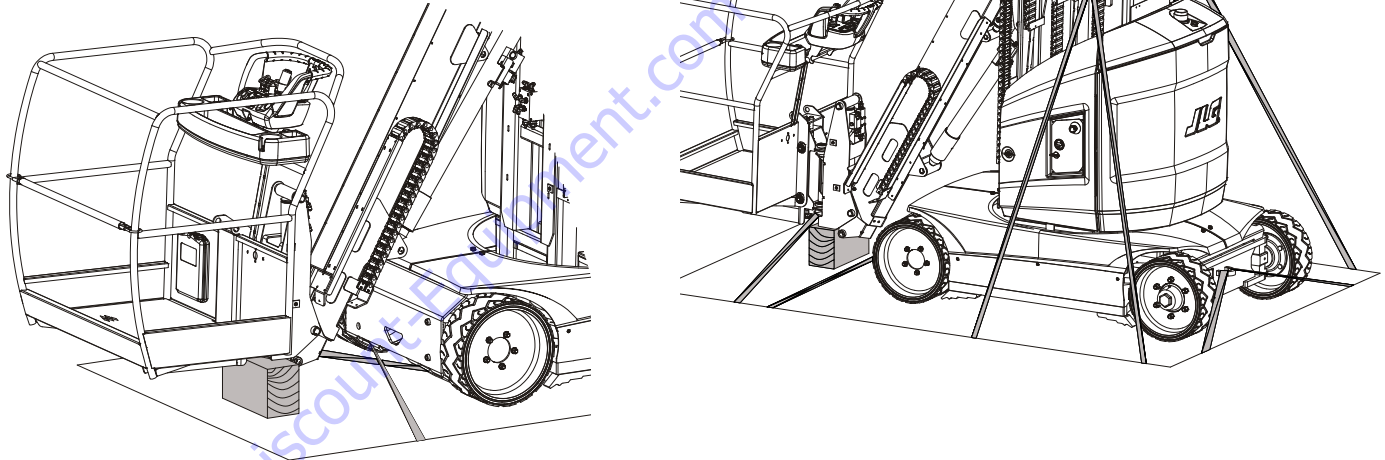

Figure 3-14. Machine Tie-Down
- Machine must be tied down to the truck bed or trailer deck as shown in Figure 3-14.